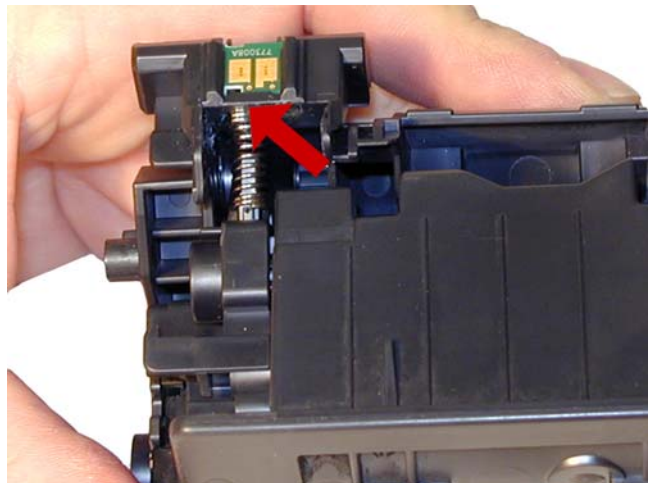

Figure 36
27) Set the hopper tension springs back in place. See **Figures 36 & 37**